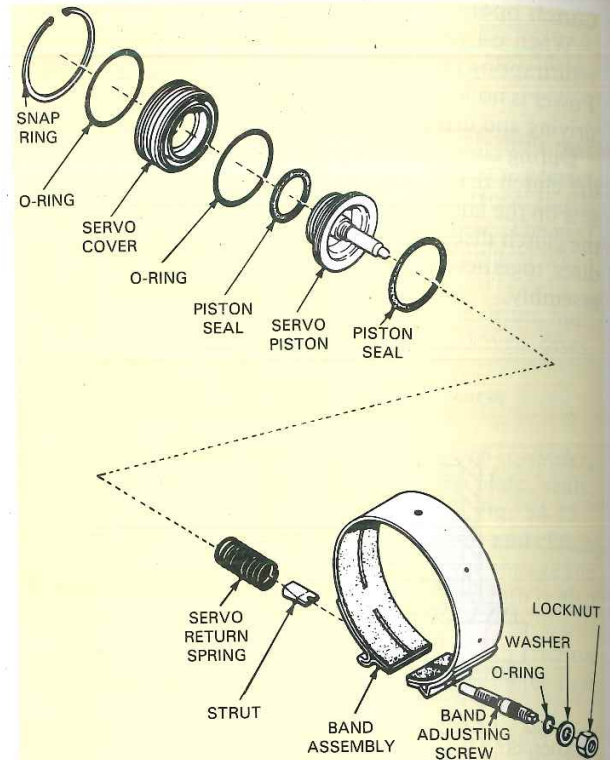

Fig. 54-19. Exploded view of band and servo assembly. Note relationship between parts. (Subaru)
*Servos* are apply pistons that operate the bands. Fig. 54-19 shows the parts of a band and servo assembly.